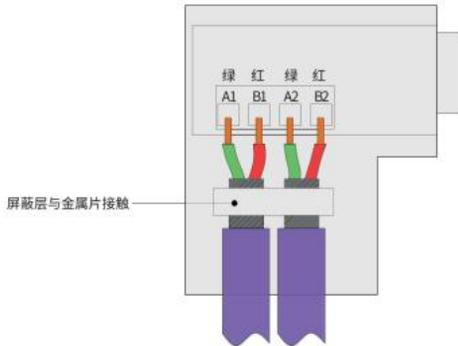

Figure 2-32 Connector Installation Position
3. Use a No. 1 flathead screwdriver to secure the cable at the connector installation position, ensuring that the shielding layer is in tight contact with the shielding layer metal plate, connect the green wire to A, and the red wire to B, as shown in Figure 2-32.